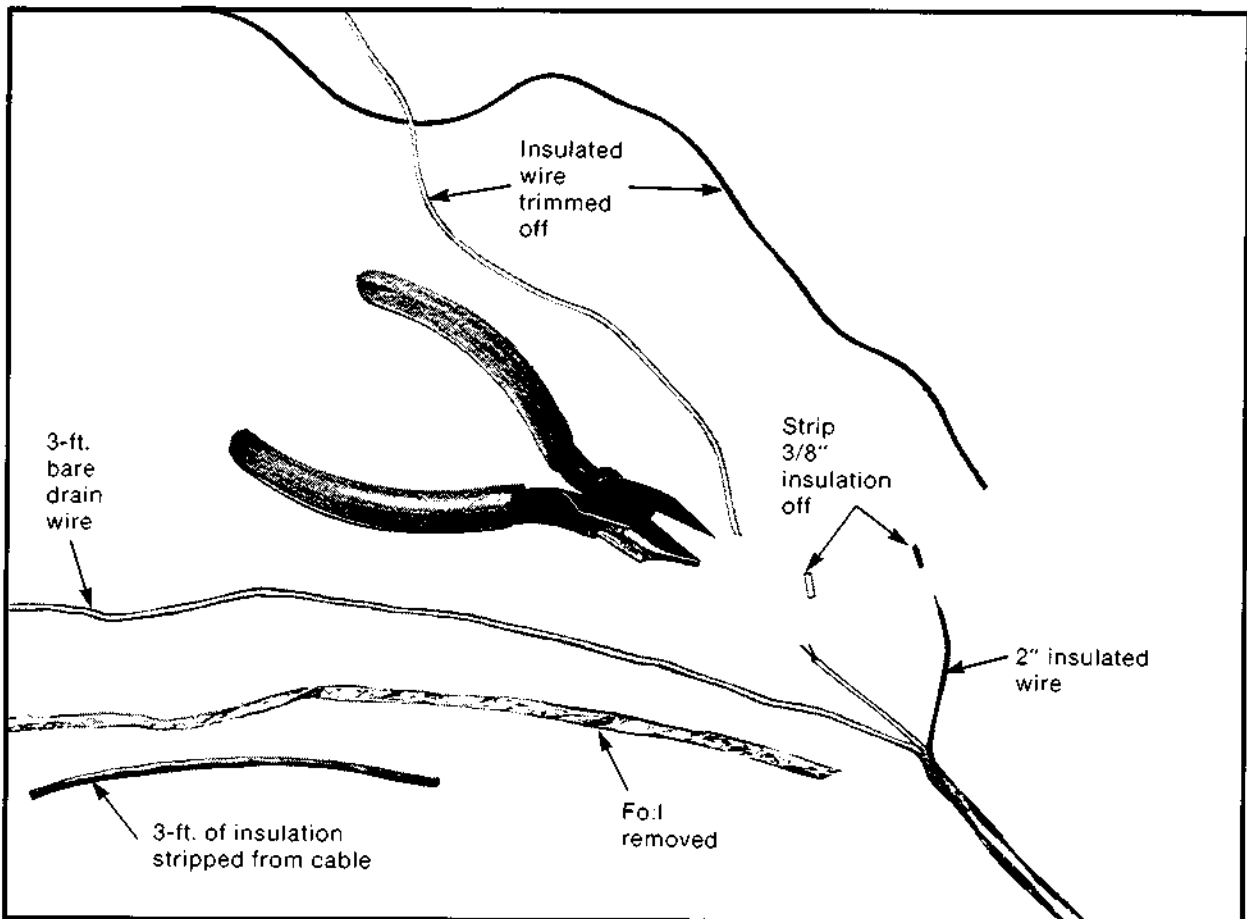

Figure 3.25 — Trim Foil and Unnecessary Insulated Wire
Step 1 — Strip 3 ft of insulation from the cable at the end which is to connect to the wiring arm (figure 3.25).
Step 3 — Trim both insulated wires to 2-inch lengths. Then strip approximately 3/8-inch of insulation from the end of each wire. The shield strand is left at its full 3-ft length (figure 3.25).